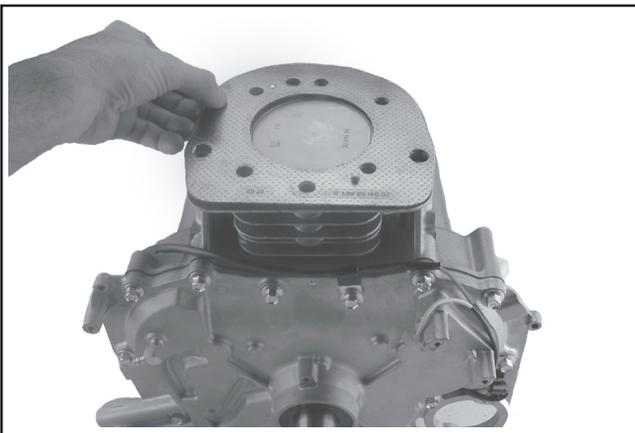

Figure 10-34. Installing Head Gasket.
4. Install a new cylinder head gasket. See Figure 10-34.